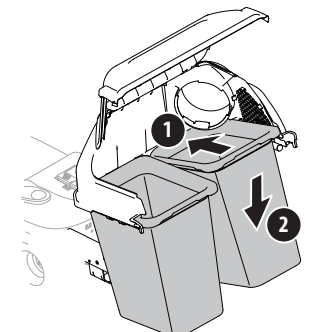

Figure 18
9. Install both grass bag assemblies onto the bag support brackets by inserting the front edge in first, as shown in Figure 18, and setting the back edge down until it fits into the assembly.